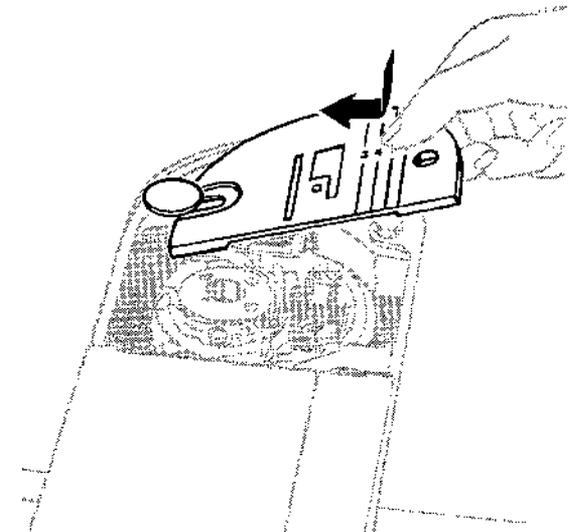

FIG. 61.
- Position fork of throat plate under clamping pin as shown in Fig. 61.